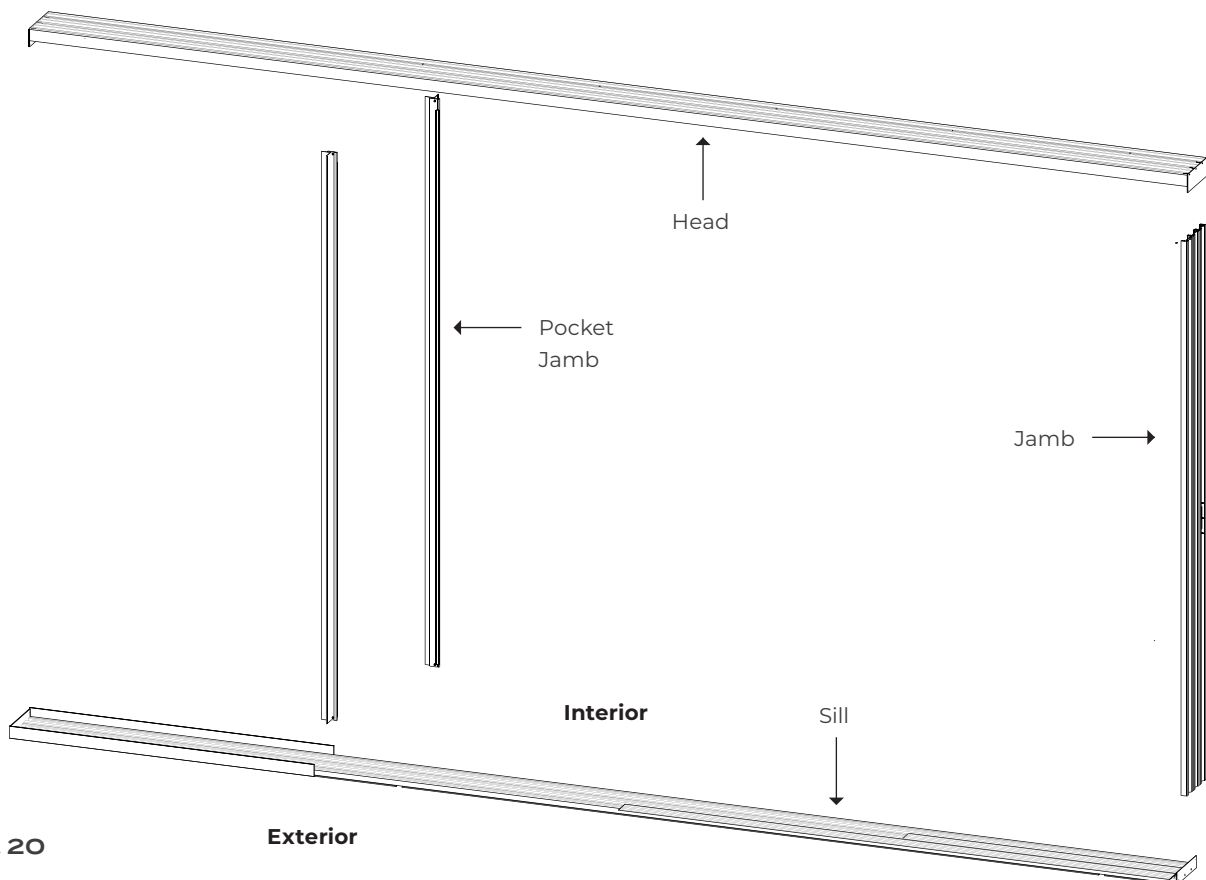

Fig. 20
- Identify frame component's features. **See Fig. 20.** (Refer Step 1 : Parts List for additional detail).